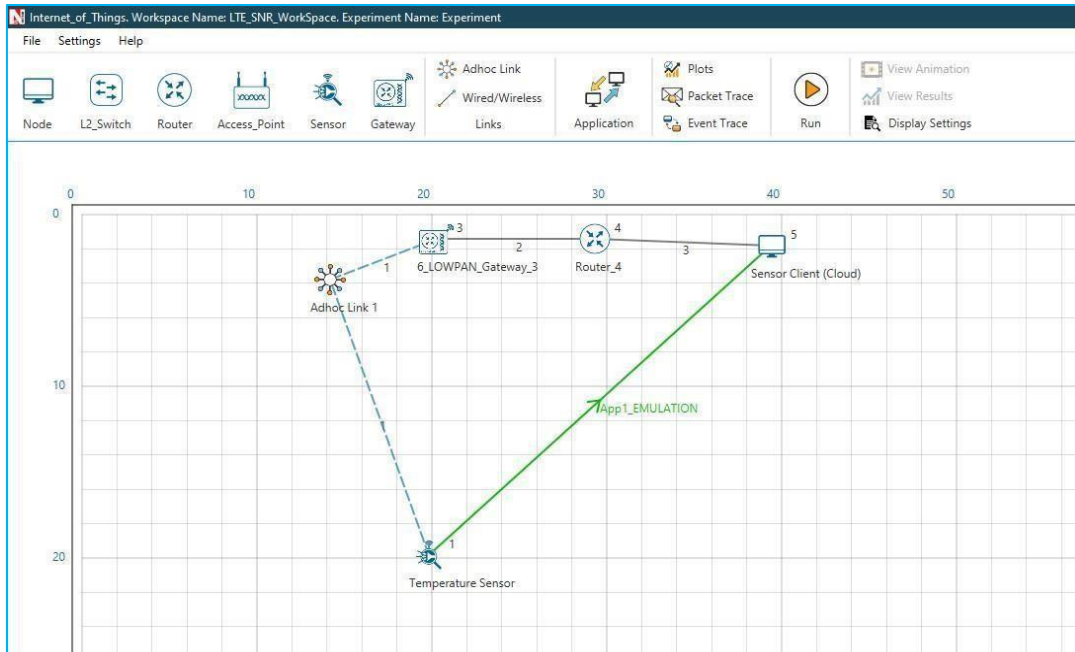

Figure 7: Network designed in NetSim
- Open IoT network module and create a simple scenario with one sensor connecting to cloud as shown in **Figure 7**.